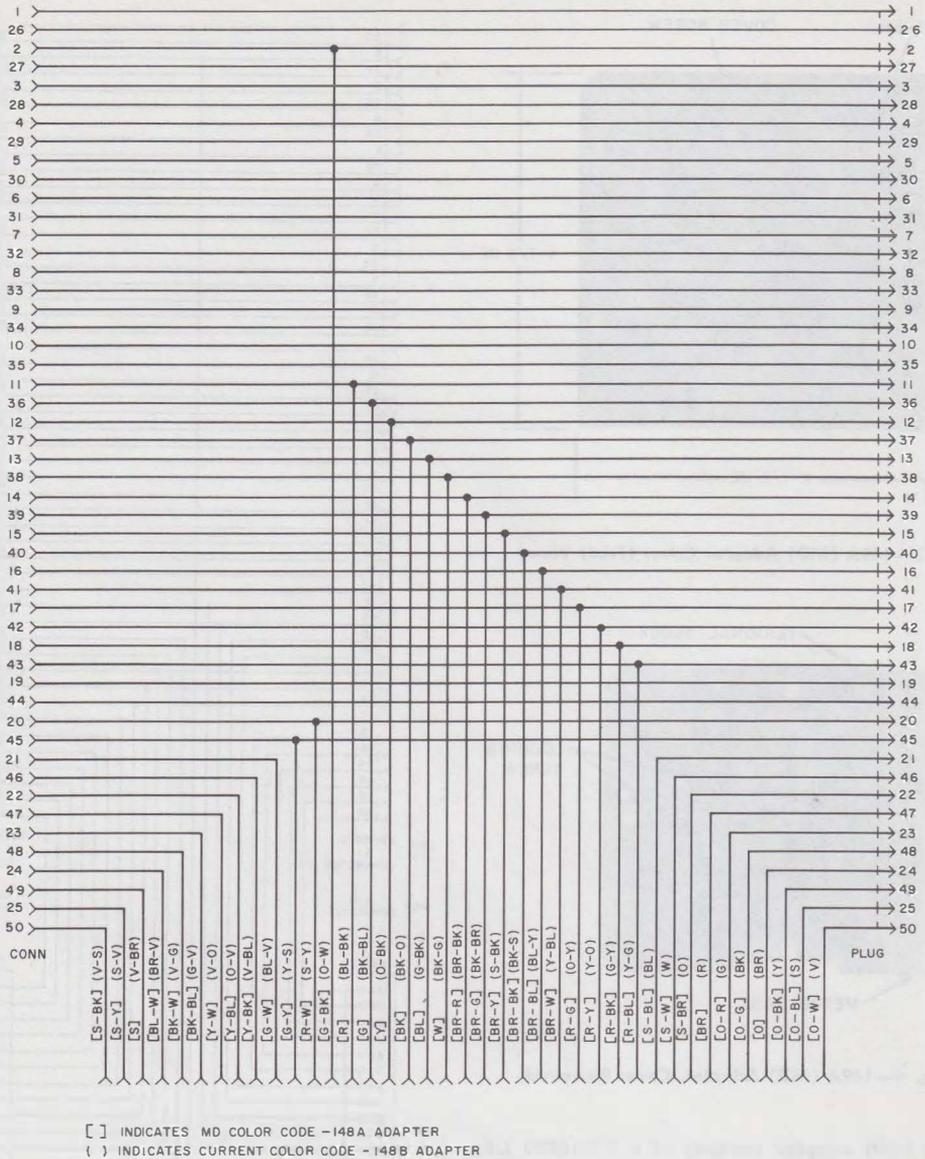

Fig. 2—148A (MD) and 148B Adapter, Schematic
- Pins 1 through 20 and 26 through 45 of the 50-contact plug are interwired by strapping to corresponding pins of the 50-contact connector through the Y arms of the cord (Fig. 2).